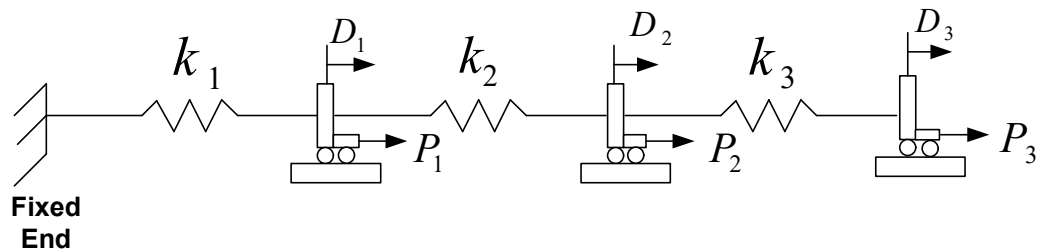

Fig.2. Three Springs in Series System
- Q.5(c) Find out the stiffness matrix for the three springs in series system shown in Fig. 2, using the principle of minimum potential energy? Also show that you will obtain the same stiffness matrix if the system equilibrium equations are expressed in matrix form? [6]